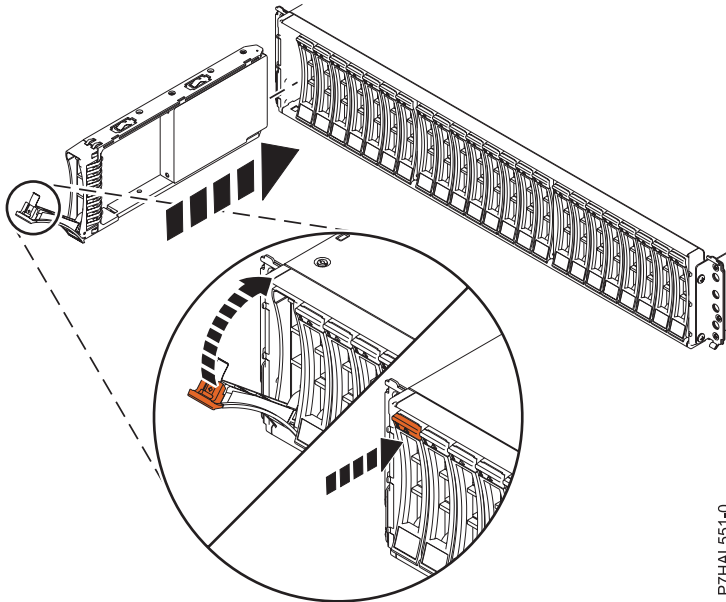

Figure 7. Installing the disk drive in the 5887 disk drive enclosure
1. With the handle in the unlocked position, see Figure 7 on page 16, support the bottom of the drive as you align it with the guide rails in the expansion unit.